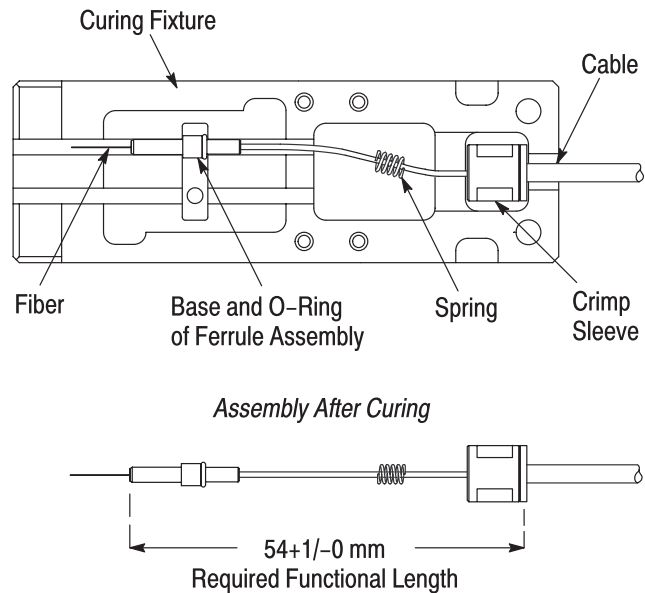

Figure 7
17. Remove the assembly from the curing fixture according to 408-8857. Measure the assembly to make sure that it conforms to the dimension given in Figure 7. If it does not, re-strip and re-terminate the fiber.